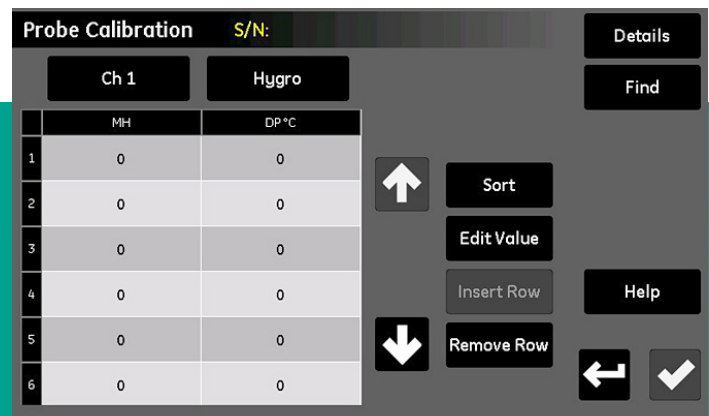

Figure 58: Probe calibration screen
1. From the *configuration menu*, tap the **probe calibration** button to open a *probe calibration* screen similar to *figure 58* on page 67. **Note that the serial number of the corresponding probe is listed at the top of the screen for reference.**